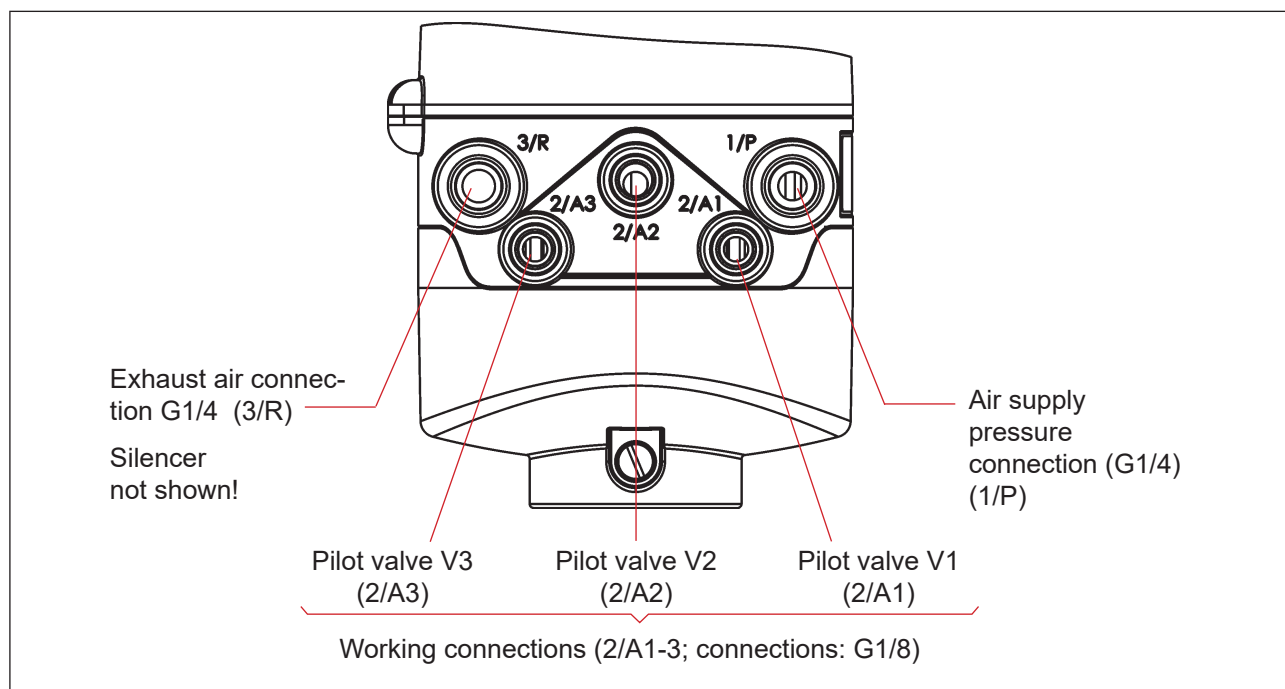

Fig. 16: Pneumatic connections
→ A silencer has already been mounted on the exhaust air connection (3/R - see “Fig. 16”) in the supplied state. As needed, the silencer can be replaced by an exhaust air hose (e.g. after screwing in an appro-
- Connect the required working connections **2/A1 to 2/A3** with the corresponding connections on the process valve (according to the number of pilot valves in the device) - compare "Fig. 16".